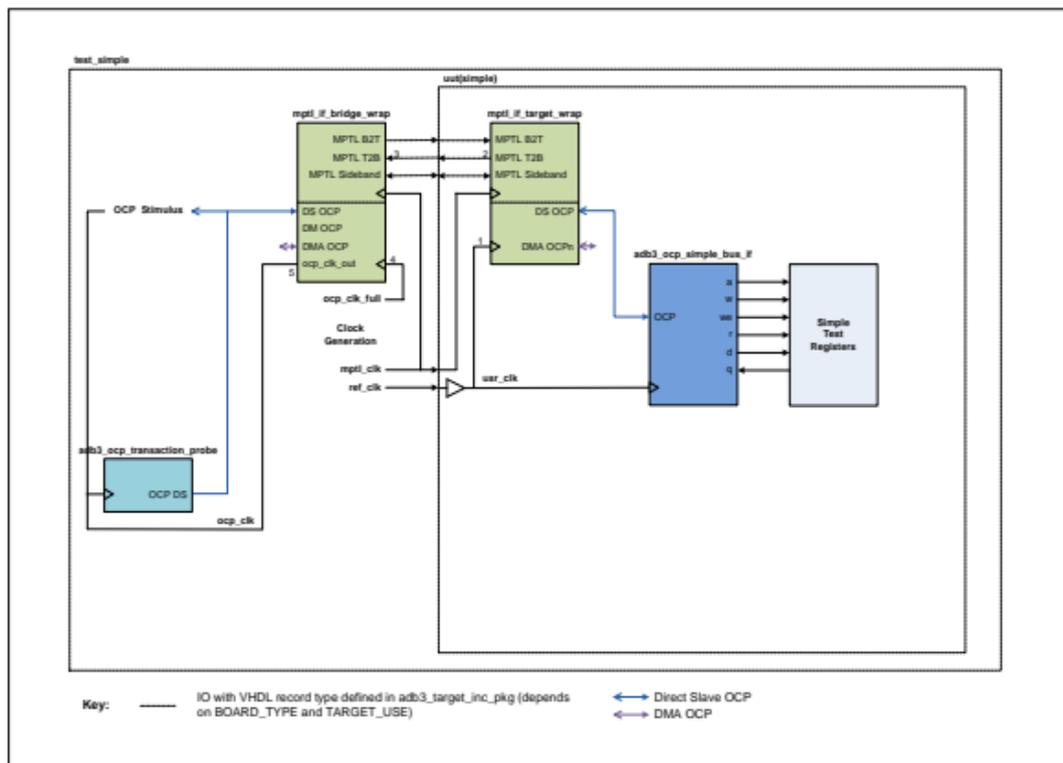

Figure 6: Simple Design Testbench Block Diagram
The testbench for the **Simple** example FPGA design is implemented in `hdl/vhdl/examples/simple/common/test_simple.vhd`. Figure 6 below shows the testbench, with the `simple_i` FPGA design embedded in it.
- In OCP-only simulation (**TARGET\_USE = SIM\_OCP**), the UUT's main OCP clock (**usr\_clk** in this case) is routed out of the UUT (**simple\_1**) via the **mptl\_if\_target\_wrap** instance and into the testbench's instance of **mptl\_if\_bridge\_wrap**. The **mptl\_if\_bridge\_wrap** instance outputs this signal as **ocp\_clk**. This route is shown in **Figure 6** as the route consisting of points 1, 2, 3 and 5.
- In full MPTL simulation (**TARGET\_USE = SIM\_MPTL**), **ocp\_clk** is entirely independent of any clock within the UUT, and the testbench's **mptl\_if\_bridge\_wrap** instance passes **ocp\_clk\_full** through to **ocp\_clk**. This is shown in **Figure 6** as the route consisting of points 4 and 5.